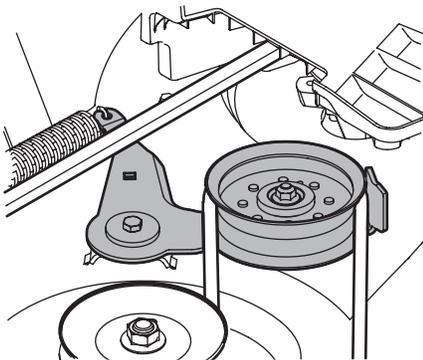

Figure 4-3
- Working on the right side of the tractor, insert a 3/8" drive ratchet wrench, set to *tighten*, into square hole found on the idler bracket. See Figure 4-3.
- Pivot the wrench forward to move the deck drive pulley forward. See Figure 4-3.